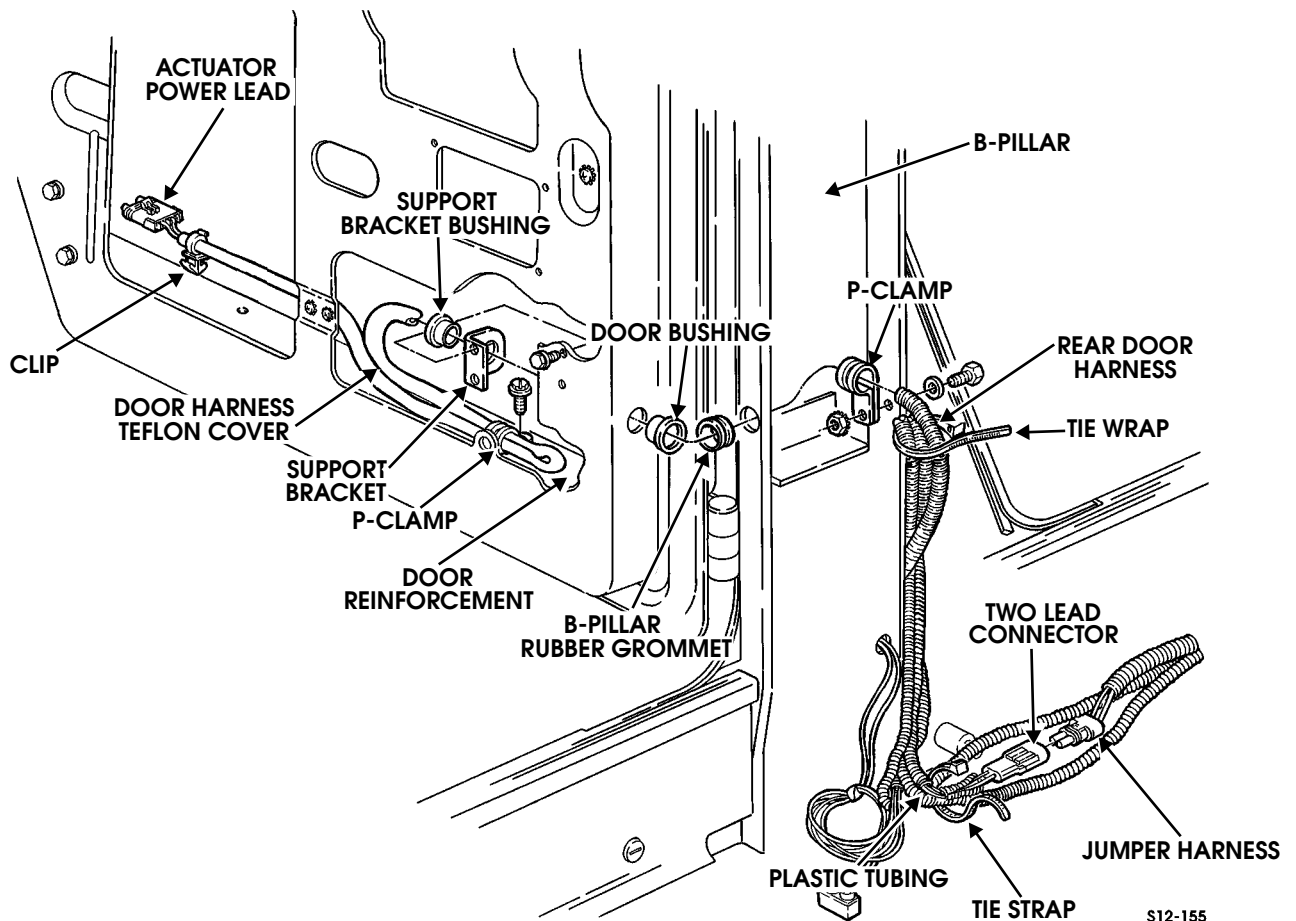

Figure 12-118: Door Harness Routing
2. Install clip and support bracket on rear door harness (Figure 12-118).